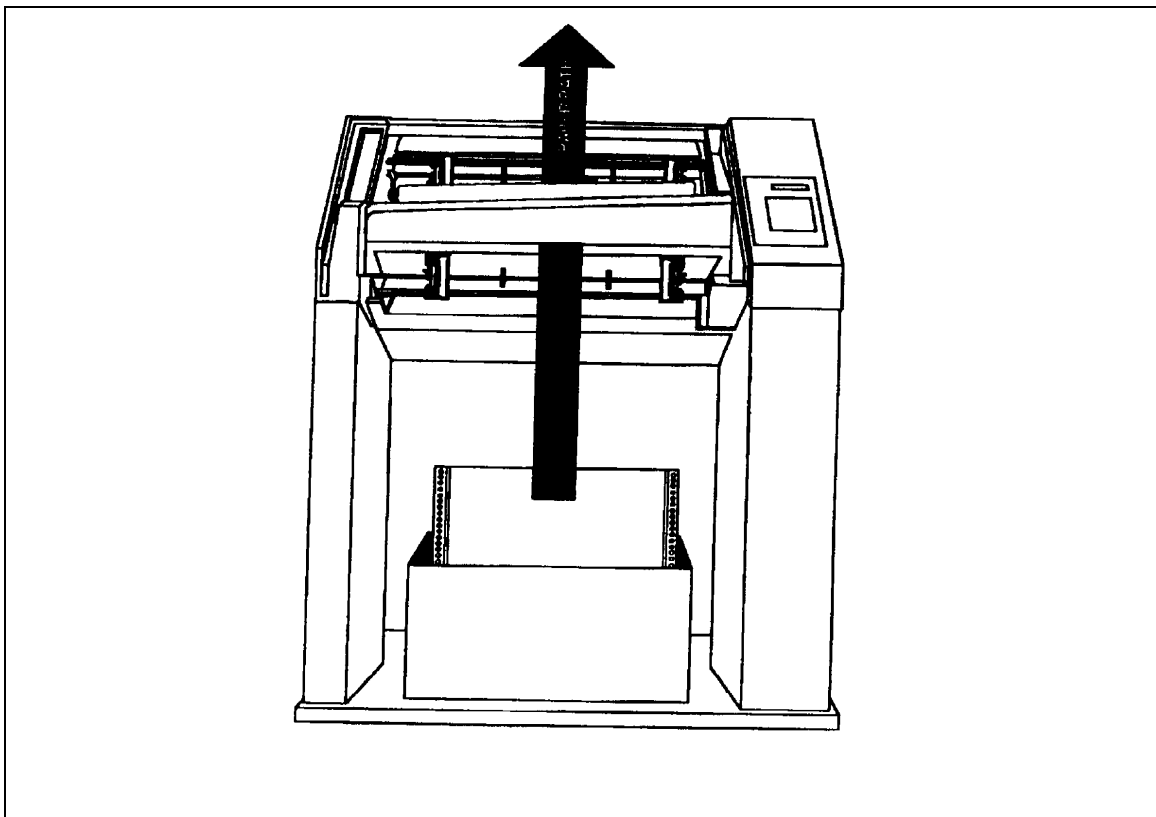
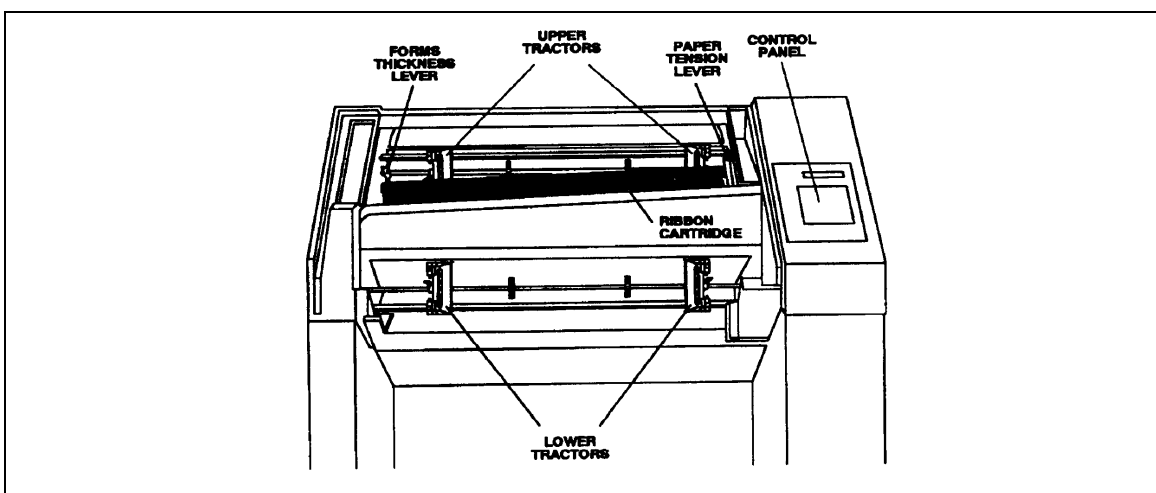

Figure 3-6. Load Path for Paper Installation.
Figure 3-7. Ribbon and Platen Assembly.
(3) Press down lightly on the ribbon cartridge while turning the ribbon knob clockwise until it sets on the cartridge post. Make sure that the ink-ribbon does not twist or fold over.
(4) Lower the form thickness lever.
c. *Loading Printer Paper.* Load printer paper in accordance with the instructions in the vendor-provided documentation. To do this you must be familiar with the paper transportation system (figure 3-6) and the paper feed path in figures 3-7 and 3-8.
(1) *Paper System Components.* As shown in figure 3-7, the tractor sets, form thickness lever, paper tension lever, and ink-ribbon cartridge are all parts of the paper system. The first three assemblies are involved in how the paper moves past the print mechanism and through the printer. Proper adjustment of these components is necessary for efficient paper movement and optimum print quality.